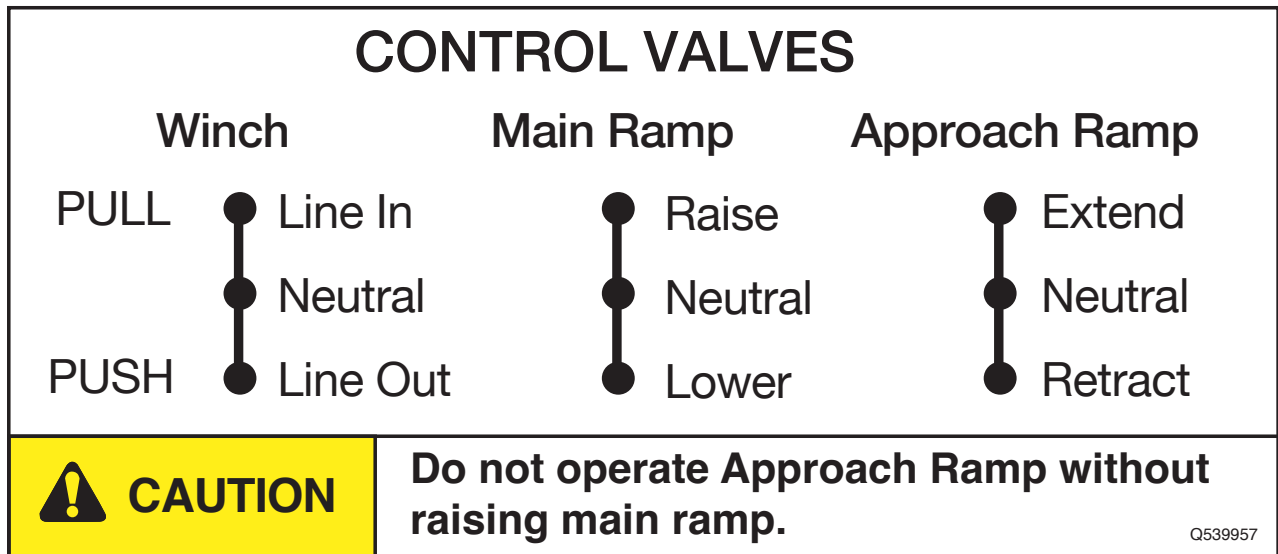

FIGURE 1-7. OPERATION DECAL - MODEL SR TRAILER - WITH MAIN AND APPROACH RAMPS AND OPTIONAL HYDRAULIC WINCH SYSTEM.
1. Put the hydraulic winch control valve handle in the "NEUTRAL" position (SEE FIGURE 1-7). Go to the WINCH ASSEMBLY and MOVE the spool disengagement handle to the DISENGAGE position. PULL the cable TO the equipment to be loaded onto the trailer. SECURELY fasten the winch cable to the equipment being loaded onto the trailer.
4. Go to the **WINCH ASSEMBLY** and **MOVE** the spool disengagement handle to the **ENGAGE** position. **SLOWLY PULL** the **WINCH** system control valve handle to the **LINE IN** position and engage the winch drive (SEE FIGURE 1-7).
5. KEEP the WINCH system control valve handle at the LINE IN position [SEE FIGURE 1-7]. CAREFULLY and SLOWLY move the equipment into the desired position on the trailer deck. Move the WINCH system control valve handle to the NEUTRAL position [SEE FIGURE 1-7].
7. PUSH the WINCH system control valve handle to the LINE OUT position and release the tension on the winch cable [SEE FIGURE 1-7]. Move the WINCH system control valve handle to the NEUTRAL position and remove the cable from the equipment. PUSH the WINCH system control valve handle to the LINE IN position and wind the winch cable onto the drum. Move the WINCH system control valve handle to the NEUTRAL position.
When NOT operating the winch system, ALWAYS leave the WINCH system control valve handle in the NEUTRAL position [SEE FIGURE 1-7].